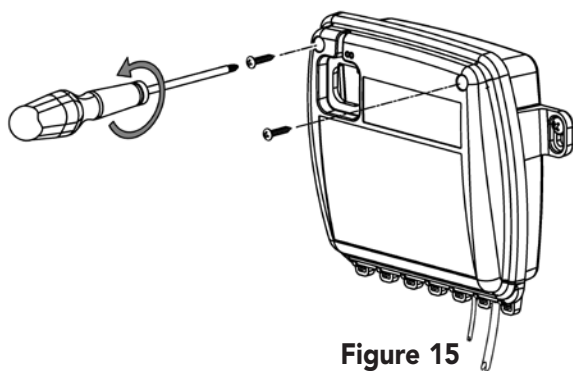
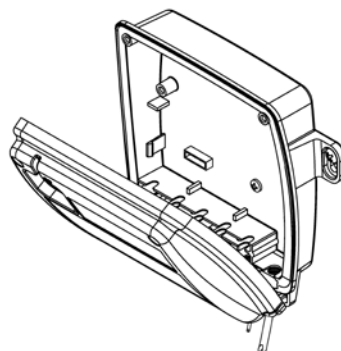

Figure 15
Figure 16
1. Using a Phillips-head screwdriver, remove the two cover screws from the front of the ChromaSteam3 control box (Figure 15), and remove the cover from the unit (Figure 16).